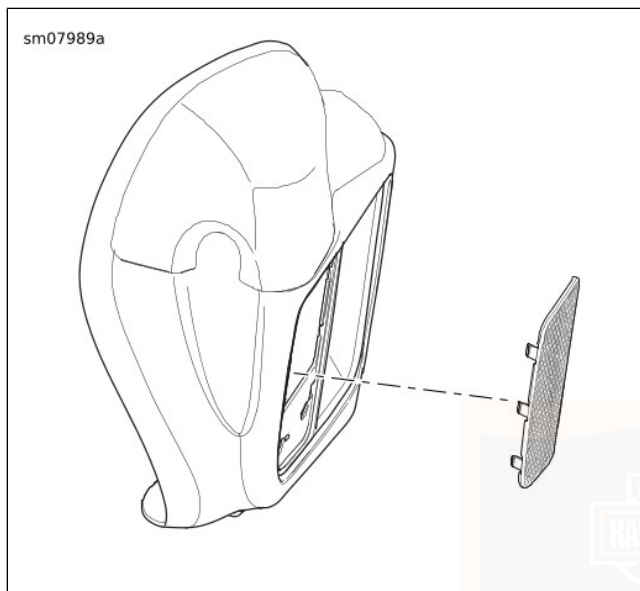

Figure 58. Lower Fairing Grille Panel
1. See Figure 58. Remove outer grille from lower fairing.